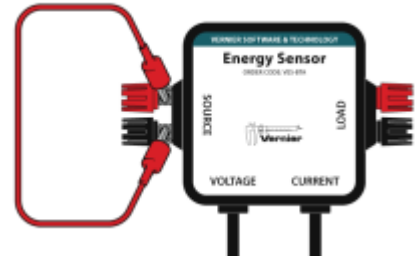

Figure 2
- Connect the Energy Sensor Source terminals to each other with a wire lead, as shown in Figure 2.